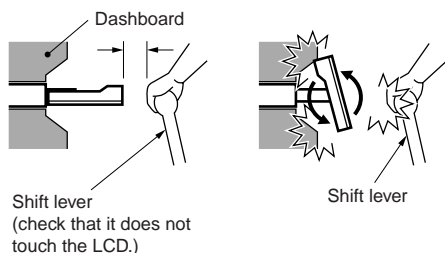

Figure 2
2. This model is used with the LCD panel slid forwards (shell loading system). On some types of cars, the LCD panel may touch the dashboard or shift lever, in which case it cannot be installed. Check that the set will not hamper operation of the shift lever before choosing the place of installation.(Figure 2)